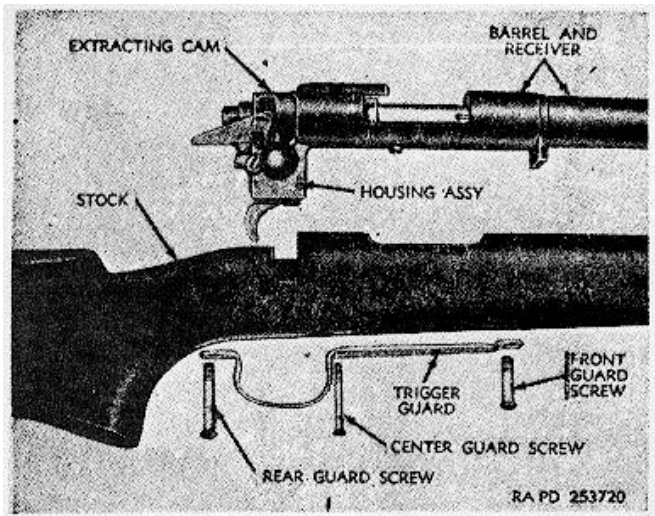

Figure 50. Cal 22 rifle M12 (Remington model 40XS1)-partially field stripped.
- (5) Unscrew the front, center, and rear screws from the trigger guard (fig. 50), all of which have clearance holes through the guard, and stock and tapped holes in the bottom of the receiver. Then remove trigger guard, trigger guide plate, and barrel and receiver from stock.